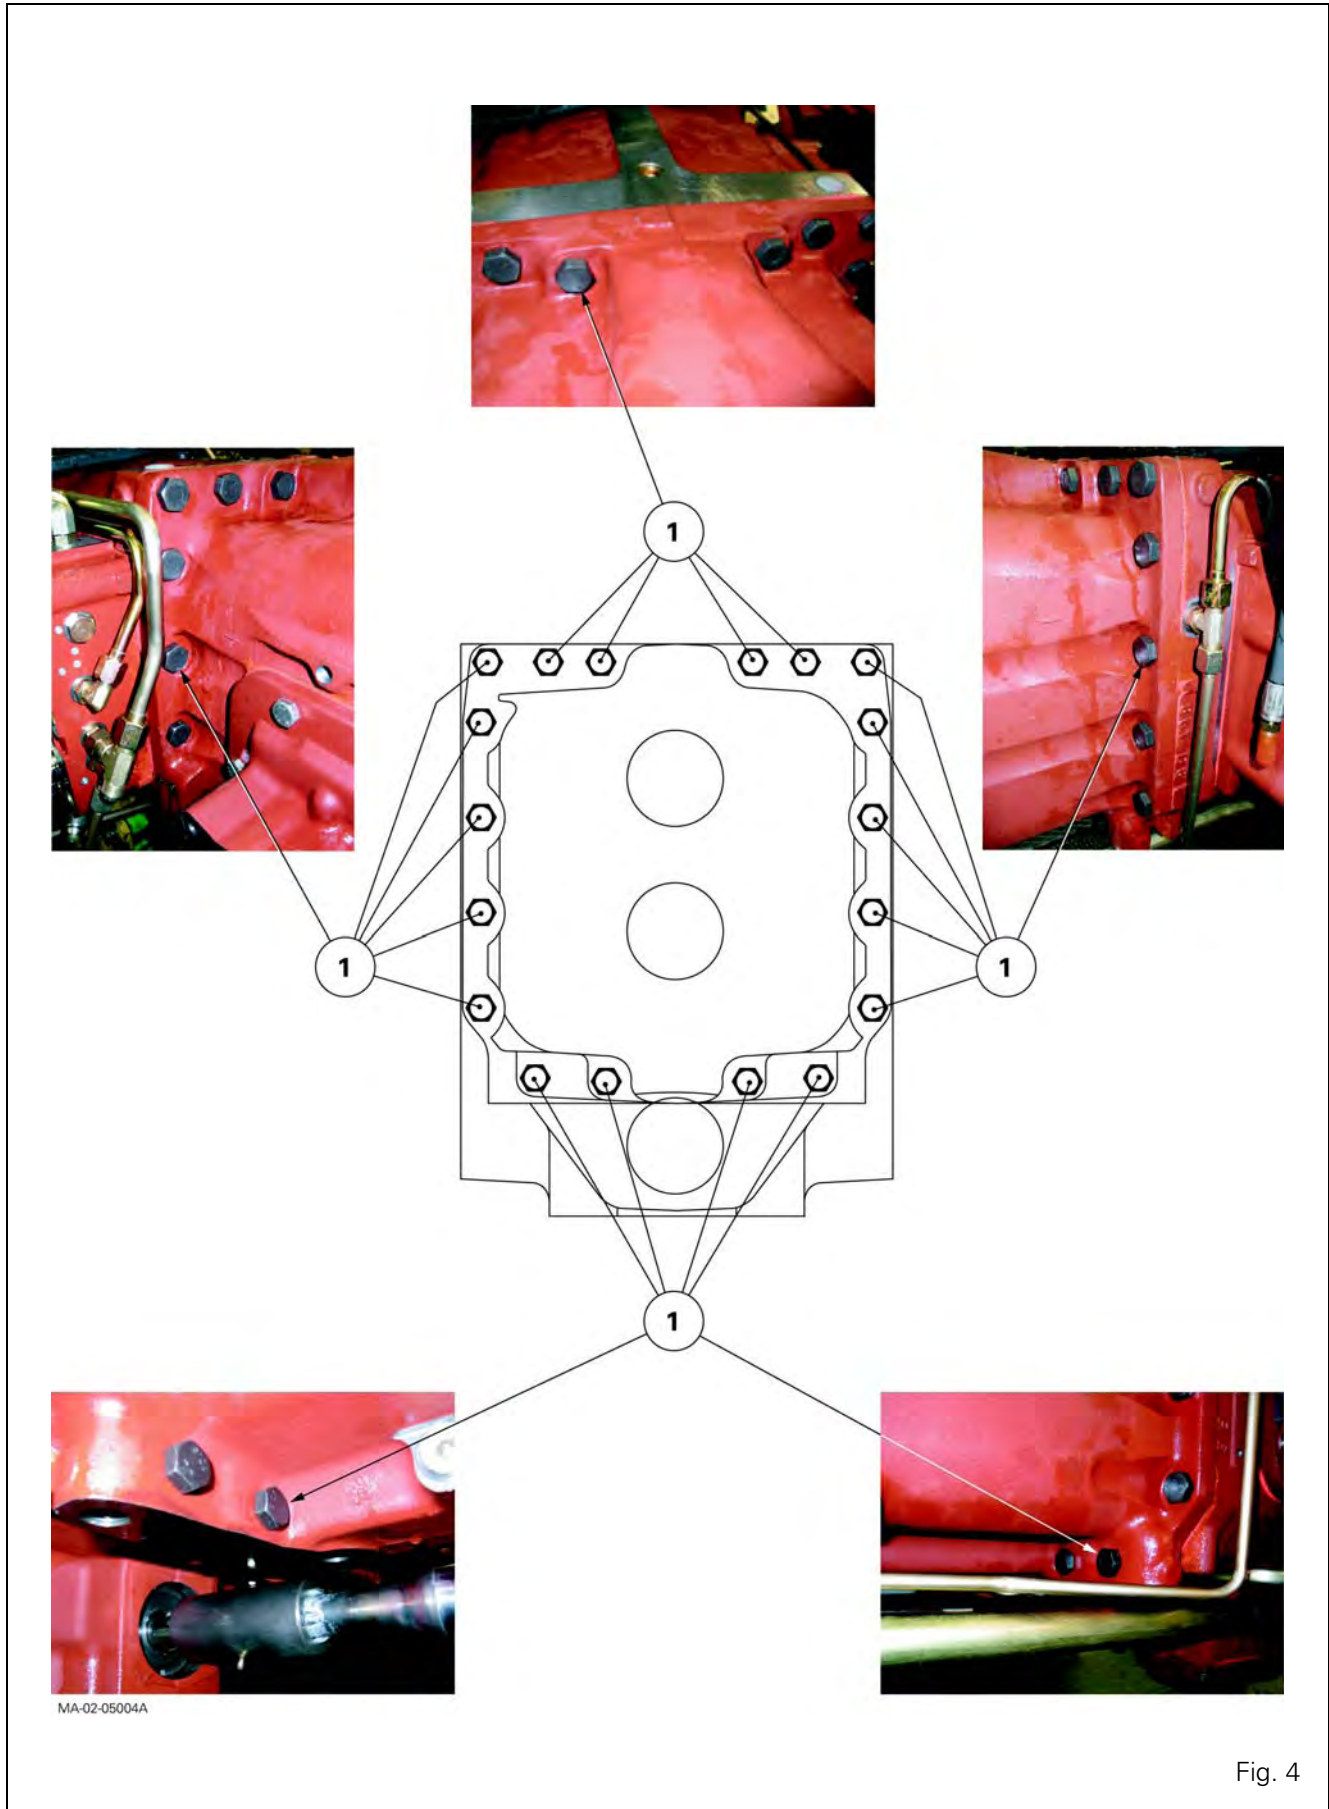

Fig. 4
27. Remove each screw (1) fixing the gearbox to the centre housing (Fig. 4), marking its position.
41. When the elements are joined, remove the guide studs. Insert the screws (1) according to the markings made at disassembly (Fig. 4) and tighten to a torque of 155 to 195 Nm.